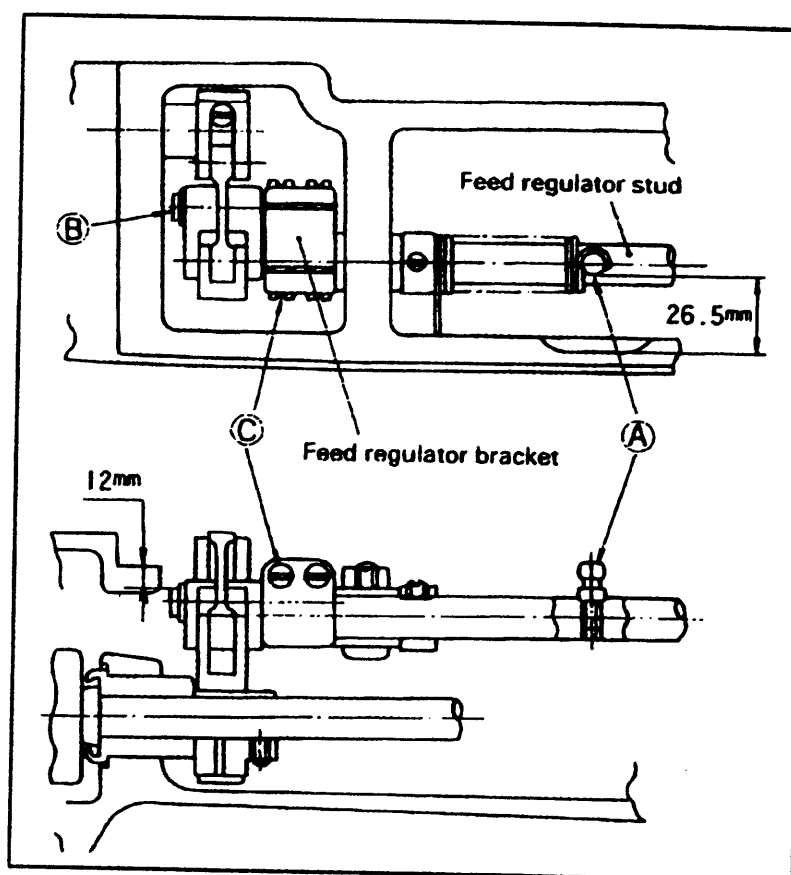

Fig.12
3) Installing the feed regulator bracket (Fig.12):
(1) Set the clearance between special screw "A" located on the regulator stud and the side wall of the machine arm to 26.5mm as Fig.12.